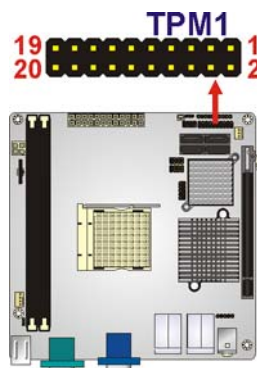

Figure 3-12: TPM Connector Pinout Locations
- CN Location:** See **Figure 3-12**